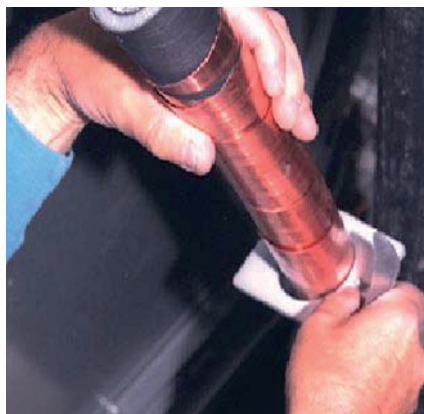

Figure 60
2. Cut the rubber sleeves to fit the cable diameter, and push them onto the cables (Figure 60).